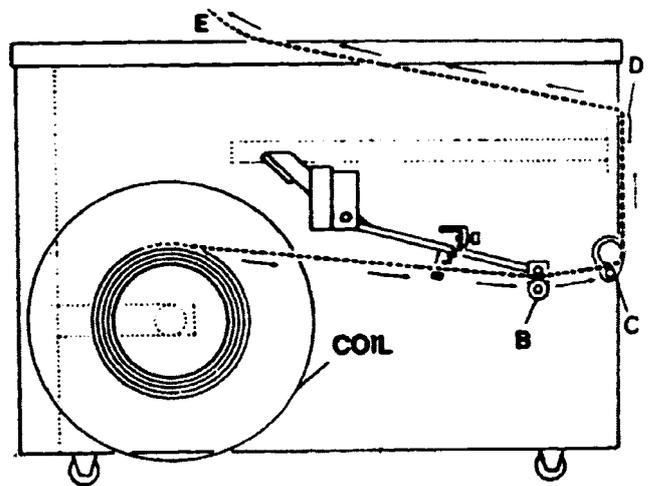

FIGURE 11. STRAP THREADING DIAGRAM
4. Place a coil of strap on the left flange allowing the shaft to poke through the plastic wrap. Pay-off must be from the top of the coil if the friction brake is to operate properly, as shown in Figure 11.
1. The threading procedure involves routing strap from the dispenser and up through the strapping head. Refer to Figure 11 and proceed as follows: